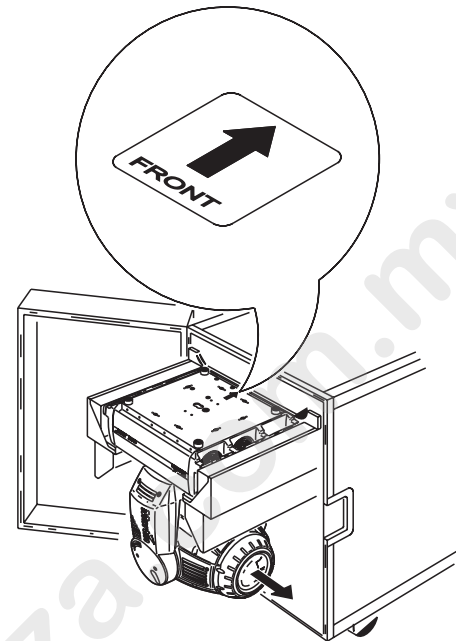

Figure 3: Double unit transport position
- 5 Tilt the head so that the lens points away from the door as shown in Figure 3. Lock the head in the horizontal position. Do not lock the yoke.